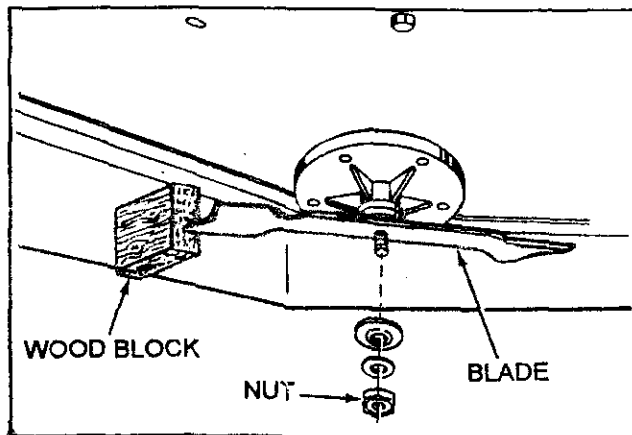

FIG. 7
- To remove blade for sharpening, use wooden block to hold blade while removing the blade mounting nut. The nuts have right hand threads. (See Fig. 7)